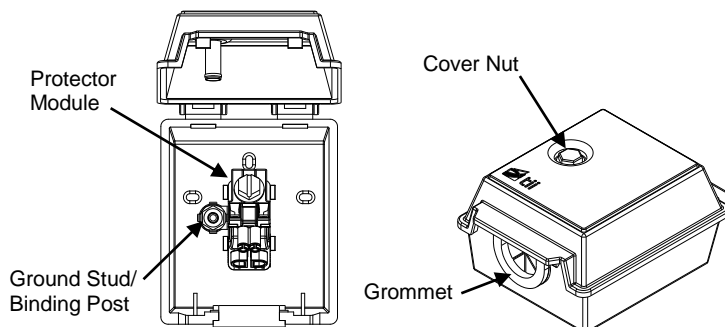

Figure 1
2. The 315 Protector Enclosure has a removable grommet located in the center of the base lip to allow Telco cable, customer cable and grounding conductor penetration (See Figure 1).